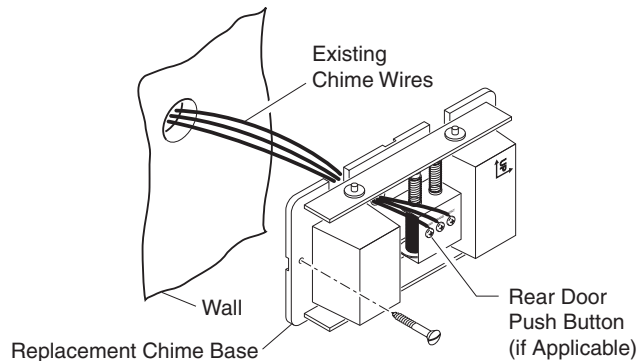

Figure 2 - Mechanical Chime Wiring
10. Connect wire “F” to screw terminal marked “FRONT”. Connect wire “T” to screw terminal marked “TRANS”. Connect wire “R” to screw terminal marked “REAR”* (See Figure 2).